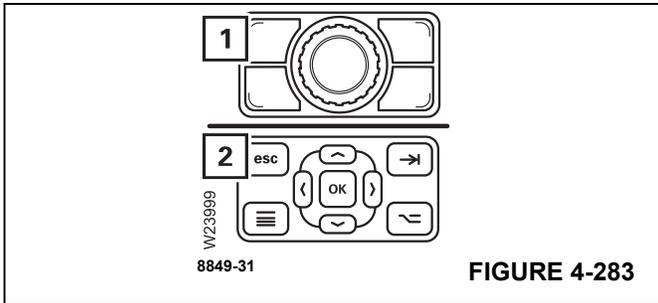

FIGURE 4-283
You can cancel the input at any time. Press button (1), (Figure 4-283) or (2), (Figure 4-283).